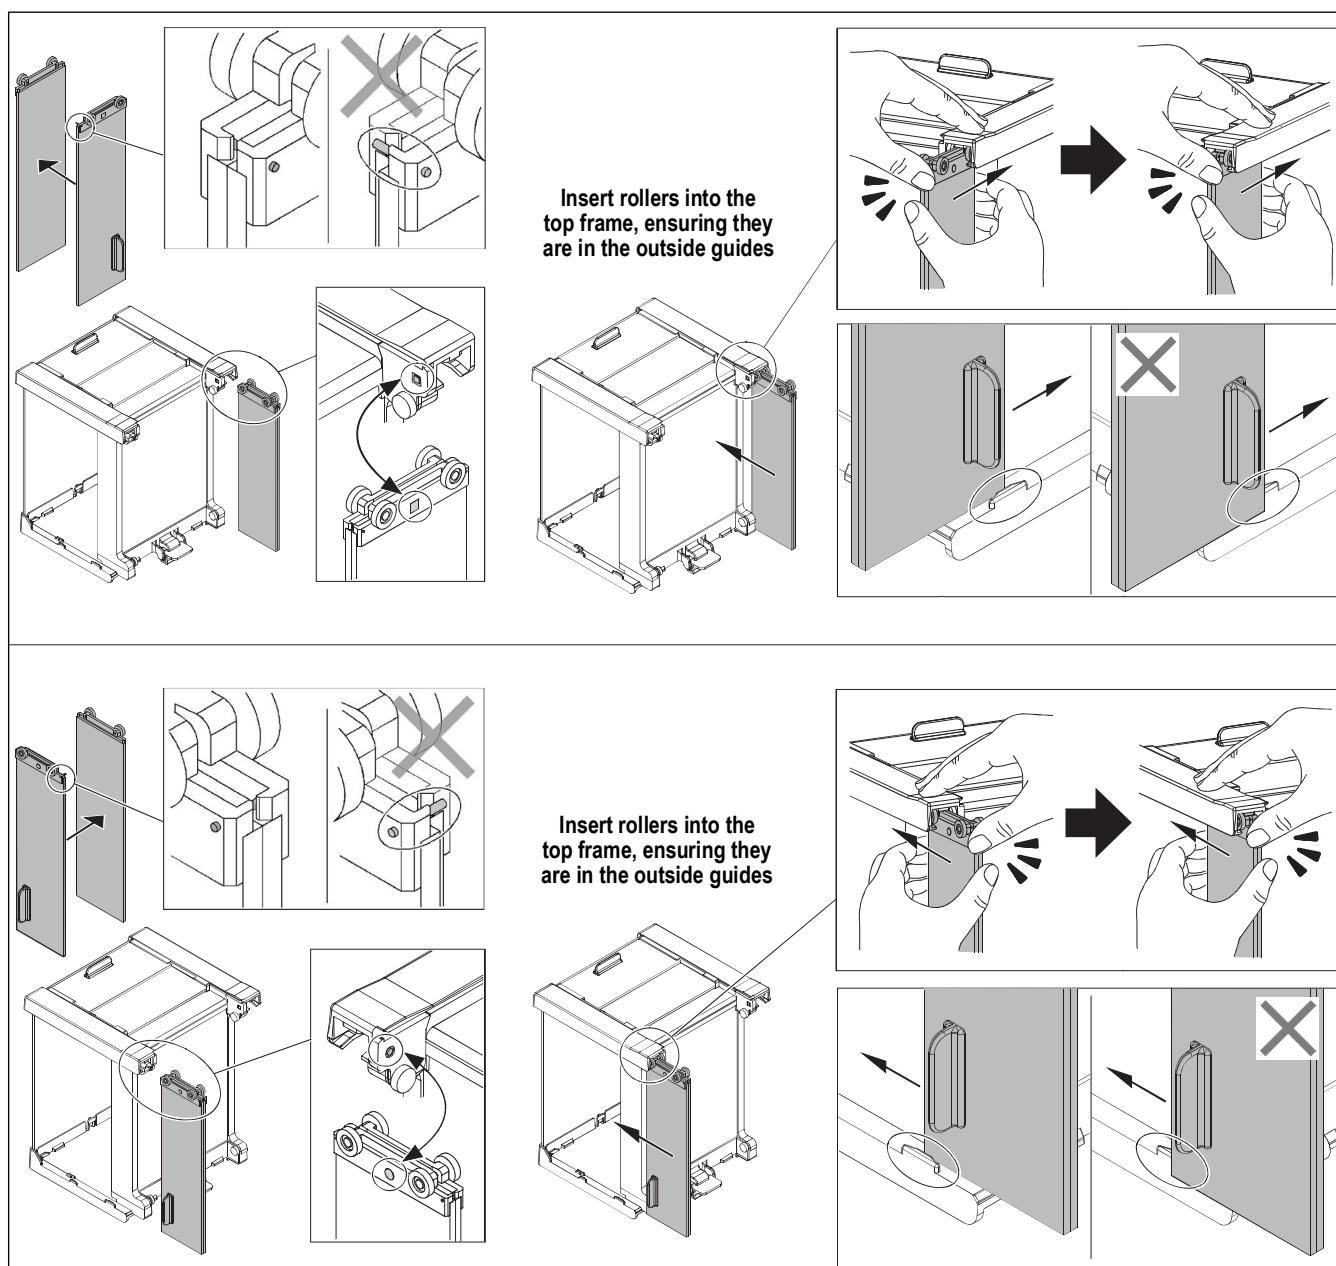

Figure 2-13. Insert Side Assemblies
11. Hold the panels together, ensuring the panel with the handle is facing outward. With the panels held tightly together, insert the rollers into the frame of the top assembly as shown in Figure 2-13.